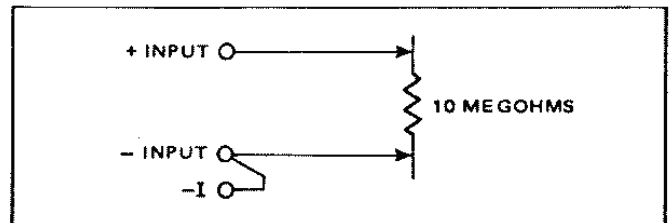

Figure 5.5 - Ohms Input Connection
- b. Remove short from INPUT and CURRENT terminals. Connect a 10 Megohm standard resistor across the \pm INPUT terminals. Do not connect the + CURRENT lead (figure 5.5).